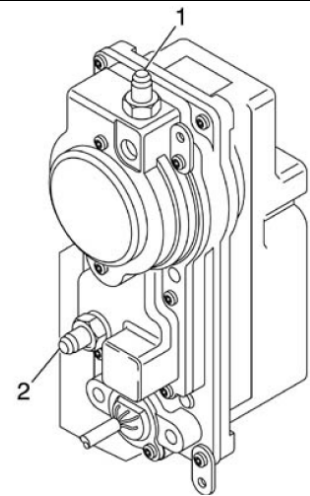

FIGURE 6
10. Disconnect the coolant lines from the actuator (FIGURE 6).